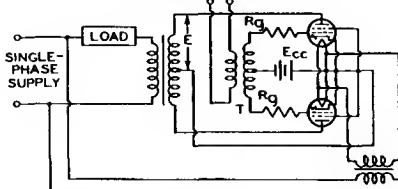

FIG. 4 FULL-WAVE SINGLE-PHASE
■ The use of a large filter-input choke is assumed, except for the circuit in Fig. 4.